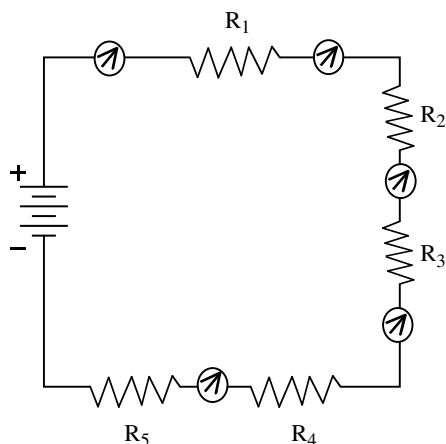

FIGURE 10.13 Current in a series circuit.
Because there is but one path for current in a series circuit, the same current (I) must flow through each part of the circuit; thus, to determine the current throughout a series circuit, only the current through one of the parts need be known. The fact that the same current flows through each part of a series circuit can be verified by inserting ammeters into the circuit at various points as shown in Figure 10.13. As indicated in Figure 10.13, each meter indicates the same value of current.